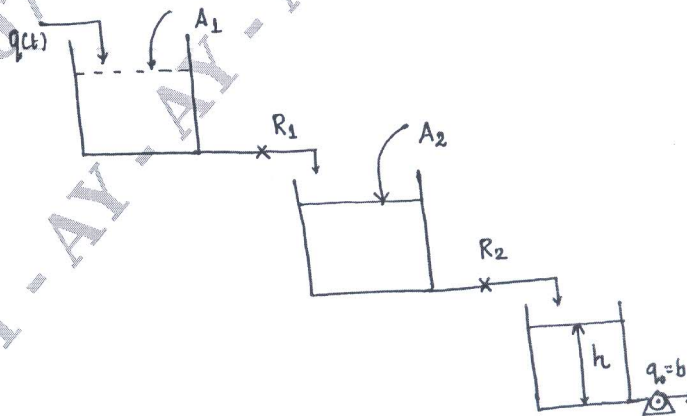

Fig. Q4 (b)
- b. Determine the transfer function $\frac{H(s)}{Q(s)}$ for the liquid level system shown in Fig. Q4 (b).